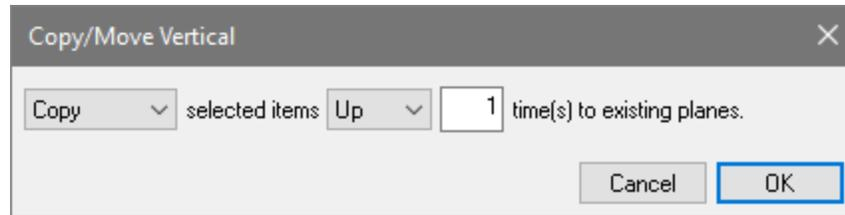

Figure 10-3
- Go to *Modify* → *Copy/Move* and click on the *Copy/Move Vertical*  icon. This will open up the *Copy - Move* window as shown in **FIGURE 10-3**.